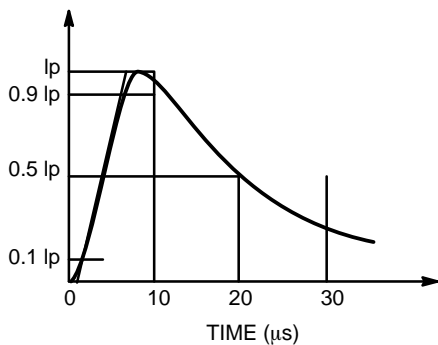

Figure 2. 8  $\mu$ s x 20  $\mu$ s Pulse Waveform
**Peak Pulse Current,  $I_{PP}$ :** Maximum surge current which the device can withstand without damage. Most low power TVS diodes are specified with the 8  $\mu$ s x 20  $\mu$ s current surge pulse. Higher power TVS diodes are measured with the 10  $\mu$ s x 1000  $\mu$ s current surge pulse. See Figures 2 and 3 for definitions of these waveforms. This parameter plays an important role to determine the robustness for high power transient voltage suppression (TVS) applications such as lightning or inductive switching applications, but is not as crucial for applications that are predominantly concerned with ESD events such as portables applications.